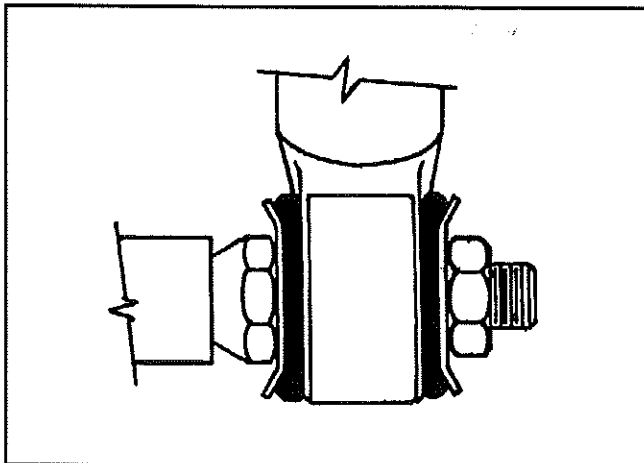

FIG. 18
3. Place the inner washers (with washer convex side facing the shock absorber rubber bushing) on each shock absorber pin (see fig. 18).